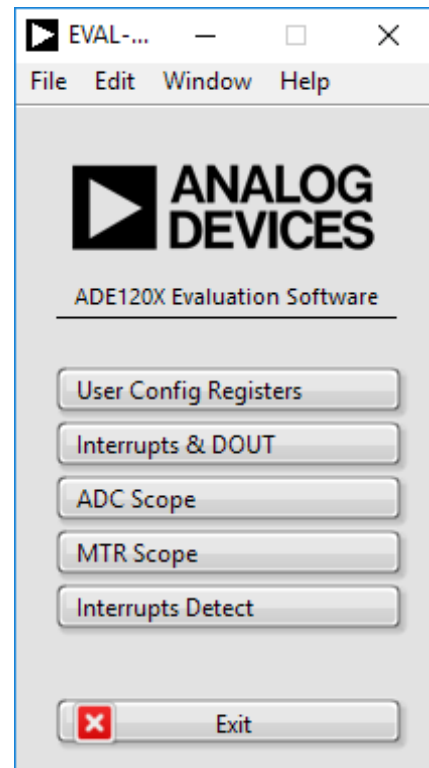
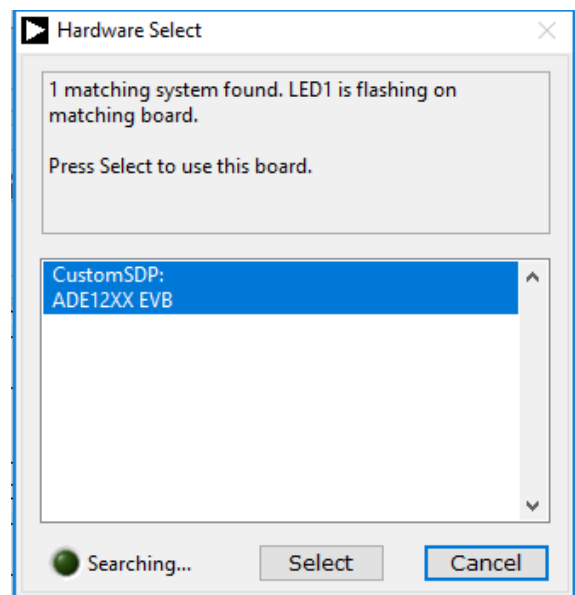

Figure 3. Main Window of the Evaluation Software
Figure 4. Hardware Select Window
When the software executable opens, the main window of the evaluation software appears, as shown in Figure 3. When the main window opens for the first time, the evaluation software prompts the user to select the matching hardware, as shown in Figure 4. Then, click Select to proceed.
The main window (see Figure 3) consists of five options to evaluate a particular functionality of the ADE1202. The five options available for evaluation include the following:
2. When the window shown in Figure 4 appears, check if the LED on the SDP-B board is flashing. If the LED is flashing, click **Select**.